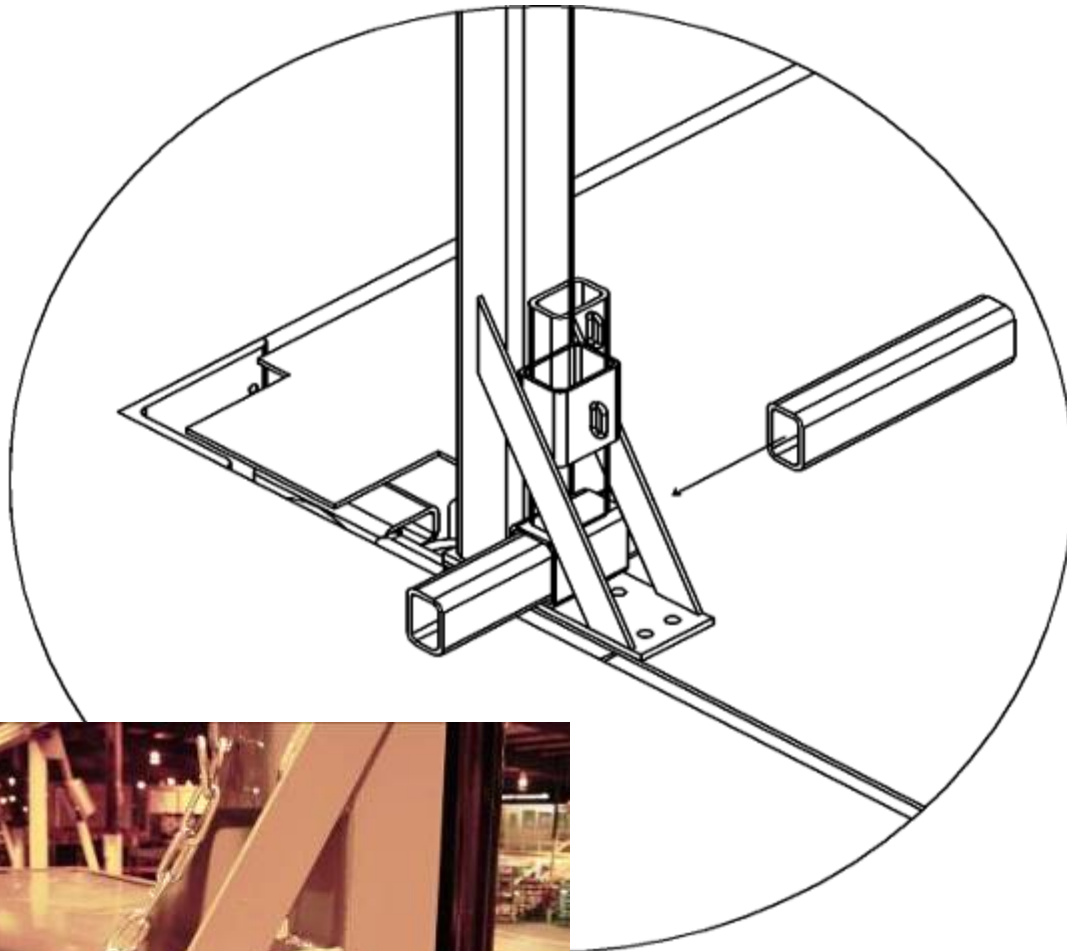

Figure 12 Maintenance Devices
2. Lower the empty deck until the four (4) maintenance locks make contact with the surrounding floor. (See **Figure 12**)
3. As an added level of protection when using the locking devices at floor level, it is recommended that a secondary stop be placed underneath the lower deck such as four (4) 4" x 4" treated wood posts that have been cut to the appropriate length.